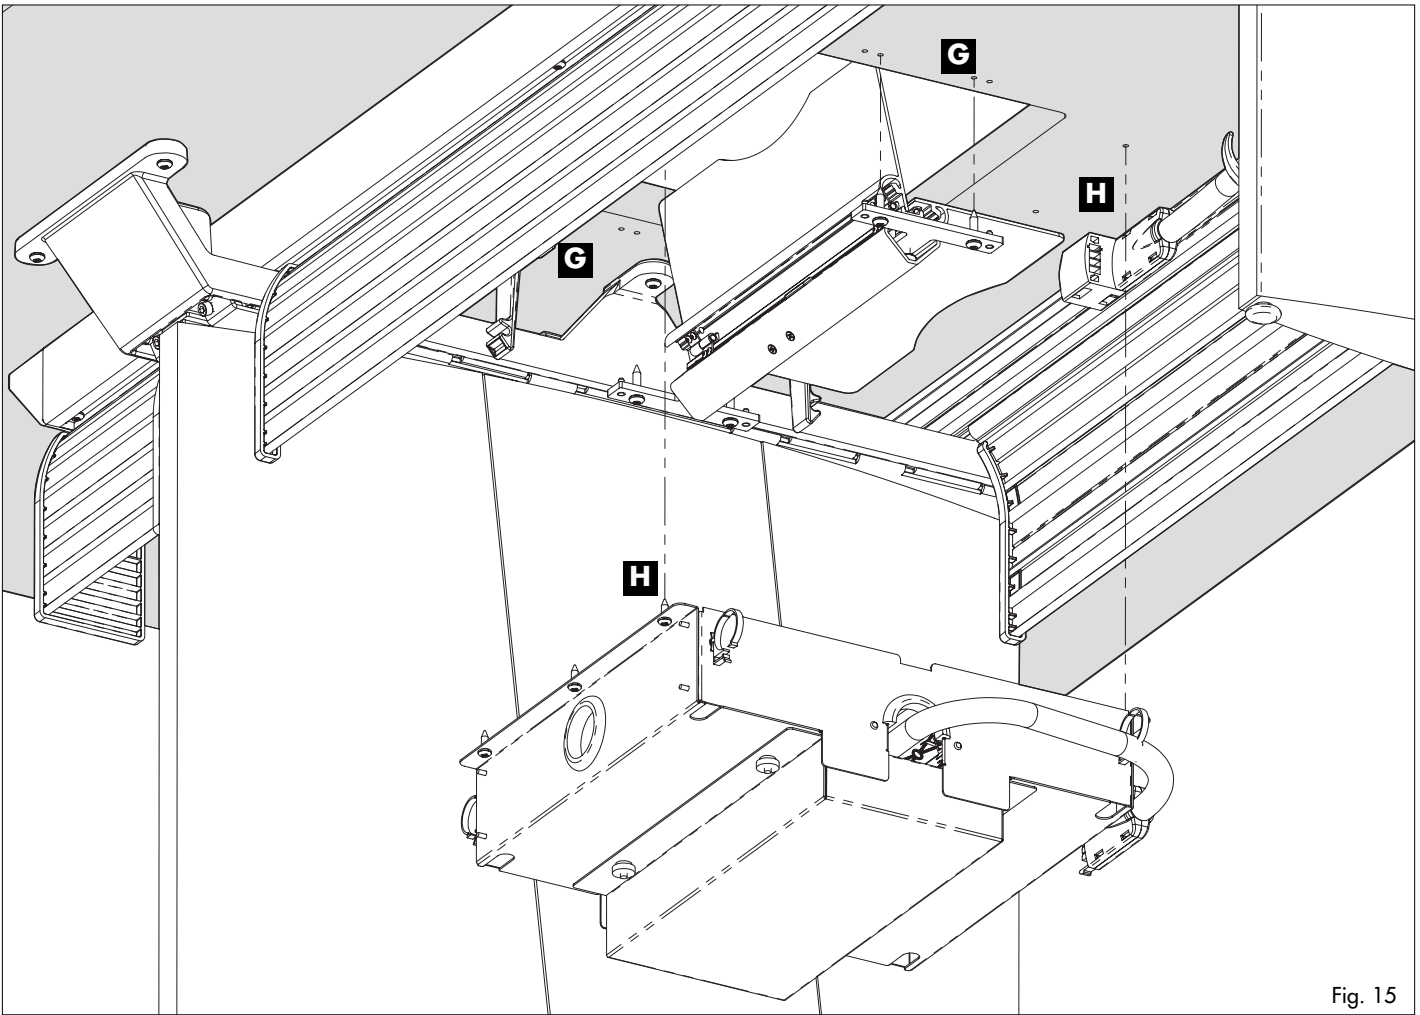

Fig. 15
Install TAP doors by locating the four alignment pins into pilot holes and securing with four screws included with the TAP assembly into location (G). See Fig. 15 and 16.
Install TAP tray by locating into place and securing with six screws included with TAP tray assembly into location (H). See Fig. 15.